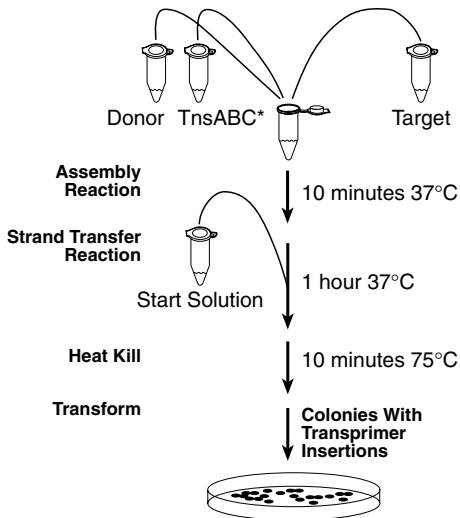

Figure 3: Reaction Overview
- Transprimer is inserted randomly into the target DNA. There are no “hot spots” for insertion (3).
- The entire protocol takes less than 90 minutes (Figure 3, page 12).